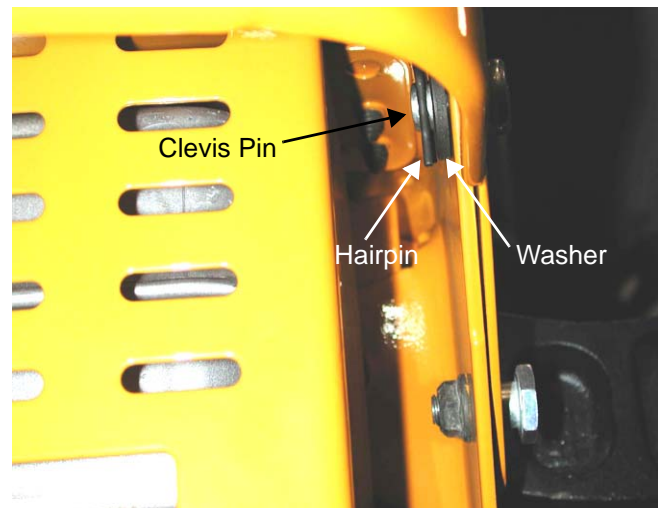

Figure 37.3
- 37.3. Remove the hairpins, flat washers and clevis pins (or screws) securing the front bumper to the tractor frame. See Figure 37.3.